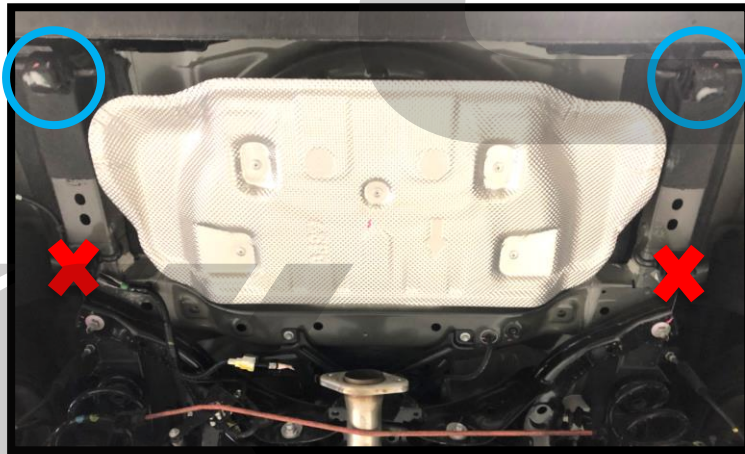

Figure 8a
a) Install the CorkSport axle back onto the rearmost rubber exhaust hangers. Hangers used shown with blue circles in **Figure 8a**. The forward axleback hangers are not used (red x in **Figure 8a**) Be careful to not scratch or damage the exhaust tips during install.